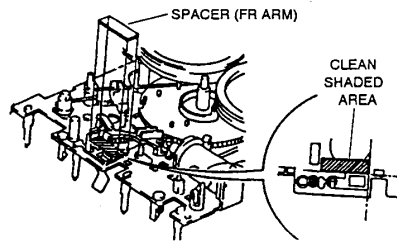

Fig. 5
- Stick the spacer (FR arm) to the shaded area of the chassis after cleaning the area with alcohol (fig. 5).